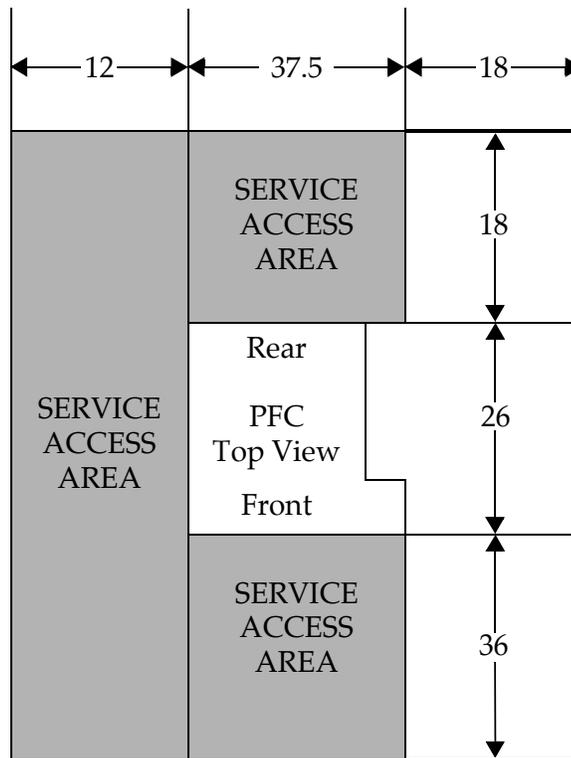

Figure 3-4: PFC Footprint (not to scale)
1. The minimum space requirements for inspection and service are as follows (see Figure 3-4):